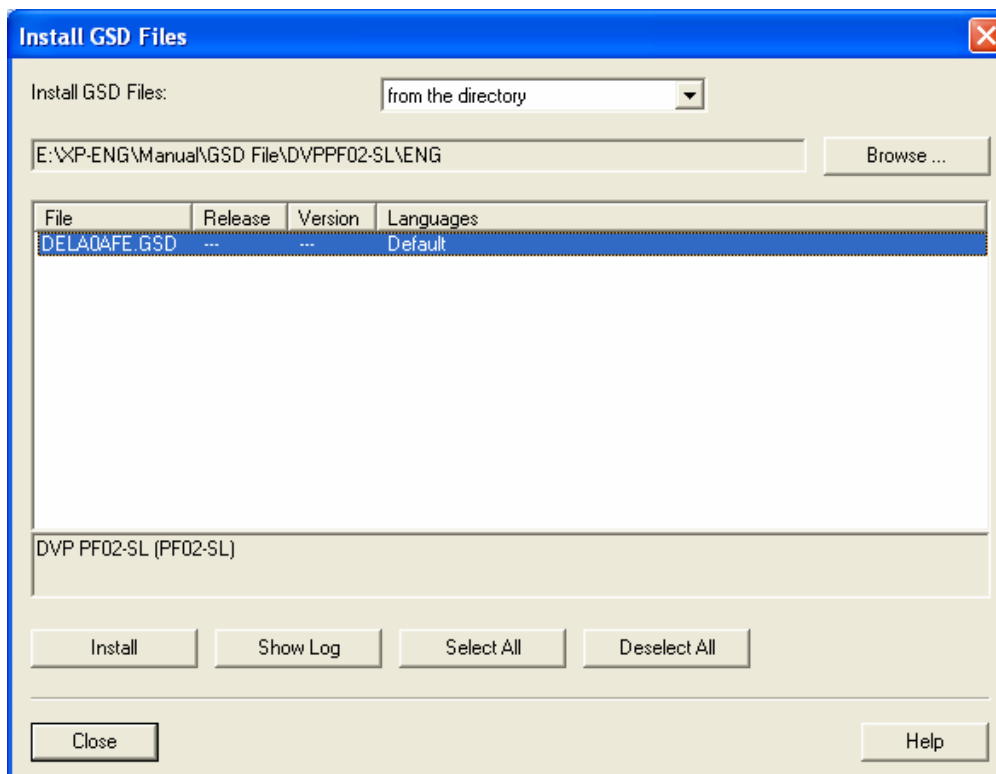

Figure 10-18
- Find the location to save the GSD file, select the GSD file to be installed and click "Install", as Figure 10-18.